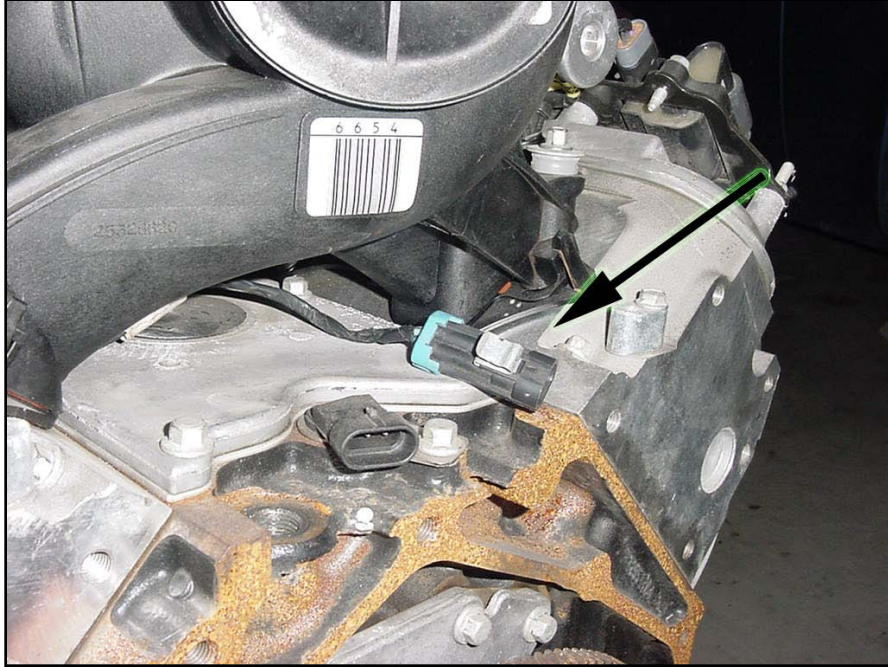

Figure 7.4 Knock Sensors (Two below Intake Manifold)
- 7.3.3 Using **Figures 7.4** thru **7.16** and the **Table 7.2**, plug in each harness connector to its appropriate sensor or device. They are all labeled accordingly.